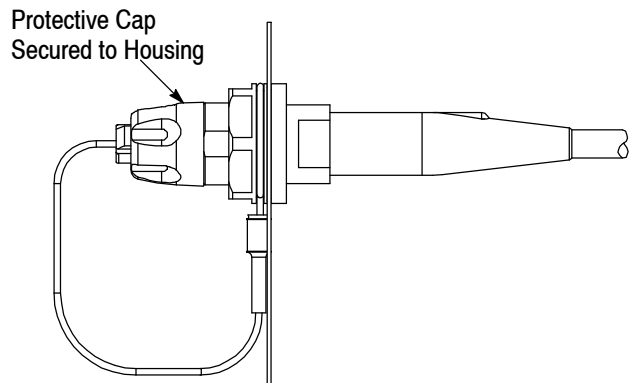

Figure 16
2. Install the connector through the back of the panel so that the O-ring on the shoulder of the D-hole housing is flat against the front of the panel. See Figure 16, Detail A.
3. Thread the panel nut onto the D-hole housing. See Figure 16, Detail A. Tighten the panel nut to a torque between 20 and 30 N-m. The O-ring should be compressed.
4. Thread the protective cap onto the housing. Hand-tighten the protective cap. See Figure 16, Detail B.